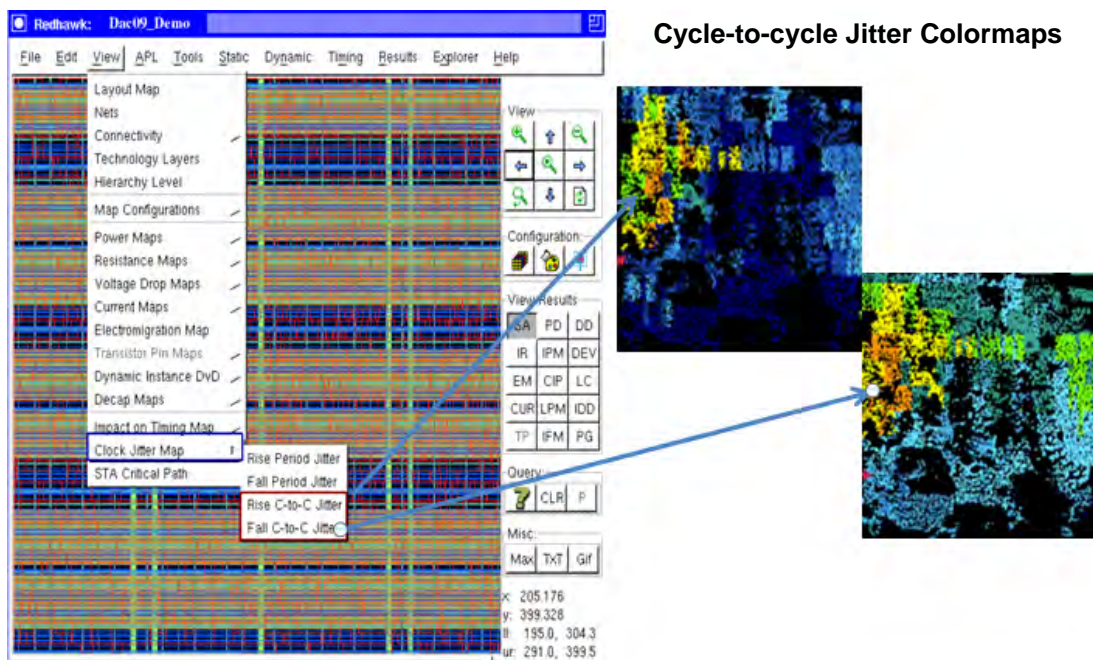

Figure 8-17 Instance cycle-to-cycle jitter colormaps
- Instance cycle-to-cycle jitter colormaps - Click on **View->Clock Jitter Map->Rise/Fall C-to-C Jitter**. The selected colormap is displayed (see Figure 8-17). This can also be displayed using the TCL 'show jitter' command.